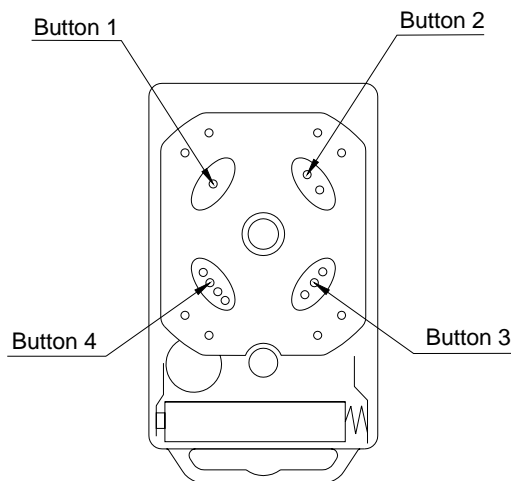

Fig.7 Remote control
- The remote control works in a single channel mode. It has four buttons. See Fig.7 remote control. The function of button 1, button 2, and button 3 are the same. With each press of the remote control button which has been programmed, the gate will close, stop, open or stop cycle. Button 4 is available for pedestrian mode.